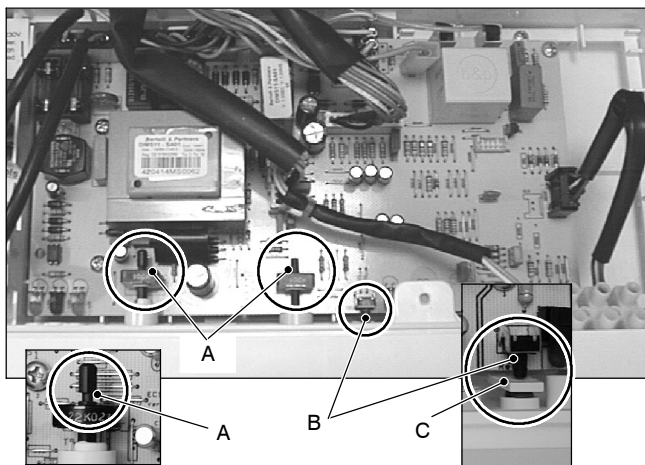

Fig. 49
- Insert the spindles in the control panel knobs until the notch A (Fig. 49) reaches the potentiometer edge. It is not necessary to force them in the knob.
- 9 While tightening the screws that fix the Electronic control/ignition p.c.b. on the control panel, keep the p.c.b. towards the control panel fascia making sure of the contact between the boiler reset button *B* and the tab *C* (Fig. 49).